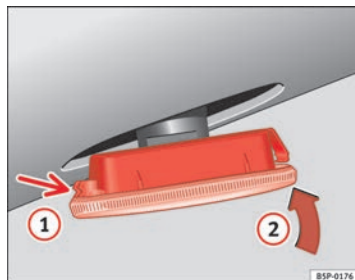

Fig. 238 Side turn signal
- First place the turn signal in the opening in the bodywork, fixing the tabs ⇒ fig. 238, arrow ①.
- Insert the bulb as shown by the arrow ② ⇒ fig. 238. ■